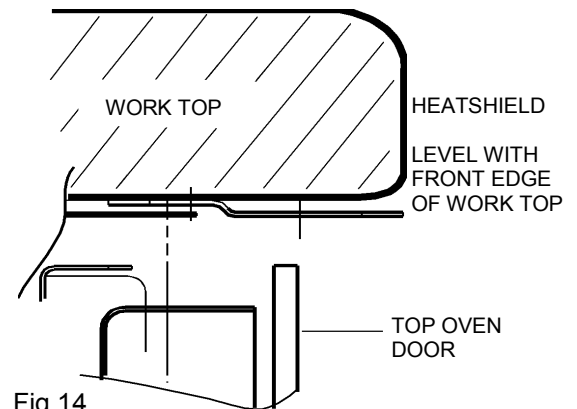
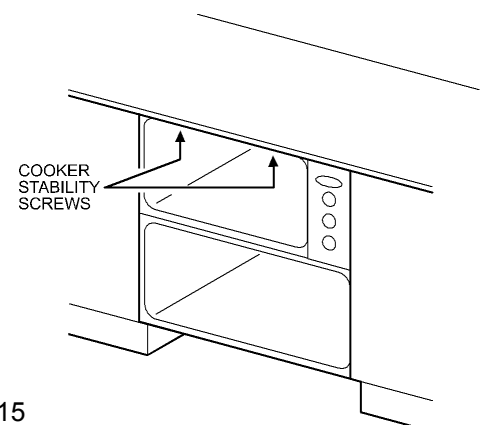

Fig.14
Fig.15
- Place the heat deflector flush with the edge of the worksurface, (see Fig.14) with the cork spacers up over (see Fig.15) and screw into position using the screws supplied with the appliance. Failure to do this may cause damage to the underside of the work surface.